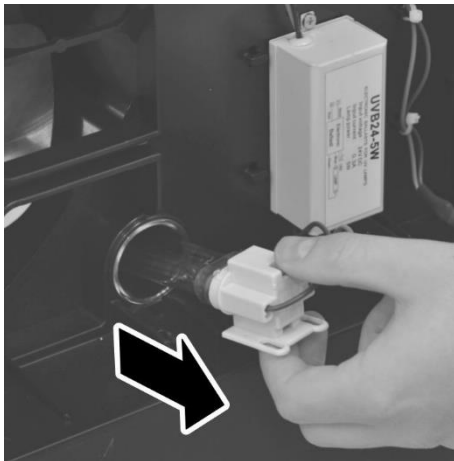

Fig. 34: Pulling out the UV lamp
4. Carefully remove the lamp holder from the back (Fig. 34).